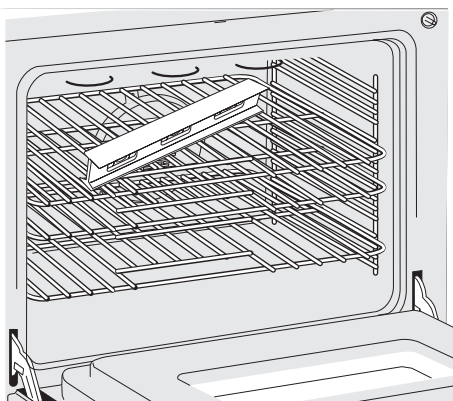

Figure 10
2. Place a level on the rack (see Figure 10). Take 2 readings with the level placed diagonally in one direction and then the other. Level the range, if necessary, by adjusting the 4 leveling legs with a wrench (see Figure 21).